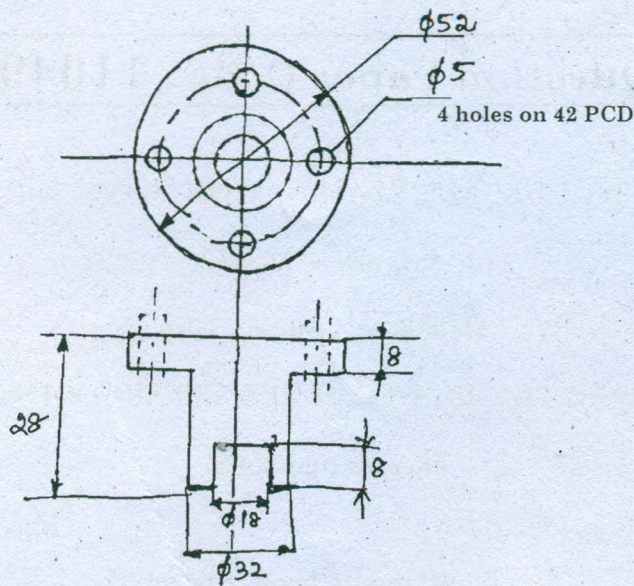

Fig. 1
- (i) V-locator (4)
- (ii) Profile locator (4)
- (iii) Diamond pin (4)
- (iv) Equalising jack. (4)
- (b) (i) Explain the various principles involved in clamping. (10)
- (ii) Write a note on clamping force. (6)
12. (a) Design a jig for drilling the dia 5 mm holes in the component shown in fig.1 (16)